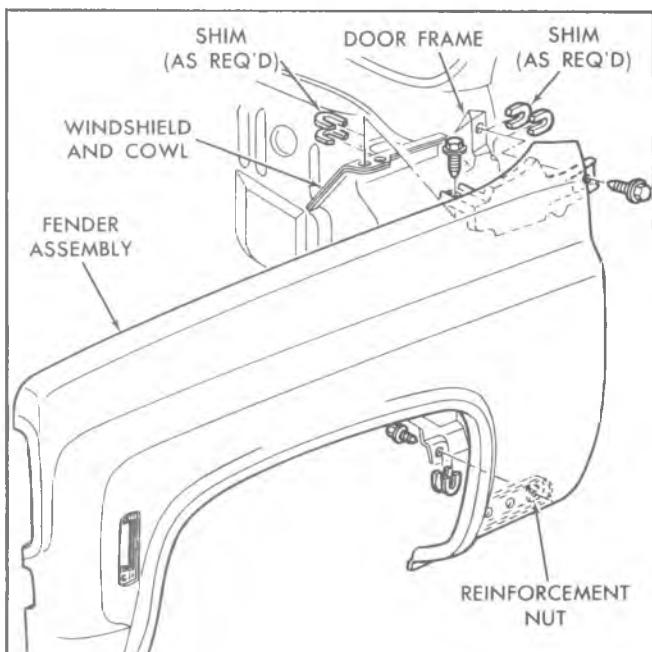

Fig. 10—Front Fender Assembly—CK Series
3. Install combination bolt and flat washer assembly into each fender reinforcement while inserting shims required between fender reinforcement and body (See Figure 10).
## FRONT FENDER (FIG. 10)